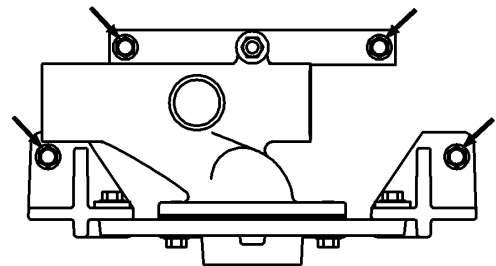

Figure 1
1. Make sure the carrier is properly bolted to the flooring using four anchor bolts. One in each foot and two in the rear anchor bar. See **Figure 1**.